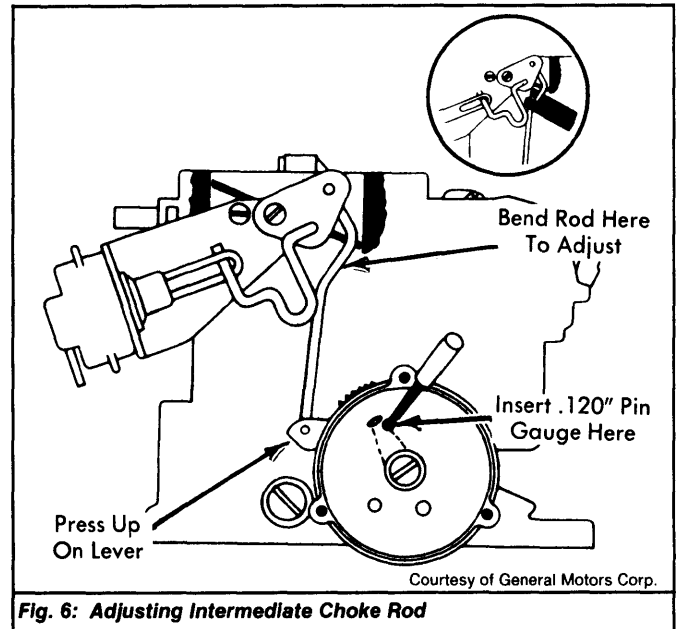

Fig. 6: Adjusting Intermediate Choke Rod
- 1) Remove thermostatic coil cover assembly. Remove inside baffle plate. Place idle speed screw on highest step of fast idle cam. Press up on choke lever to close choke valve. See Fig. 6.